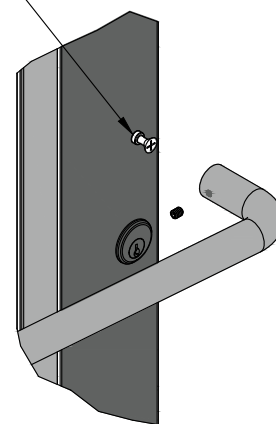

Figure 13
5. Set push bar onto S230 conehead fastener used for bottom pull handle post. See Figure 13